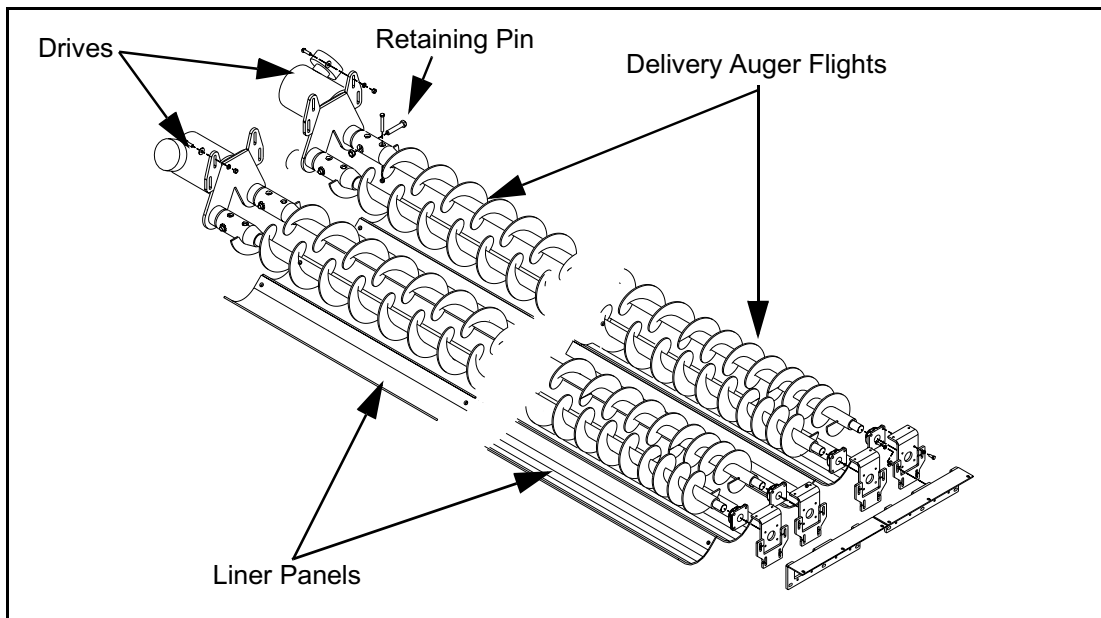

Figure 6 - 22 Replacing Delivery Auger Liners and Flights
- 3) To replace liners, remove bolts retaining liner panels and slide liners out the back of the paver. New liners can be installed in reverse order. (Figure 6 - 22)